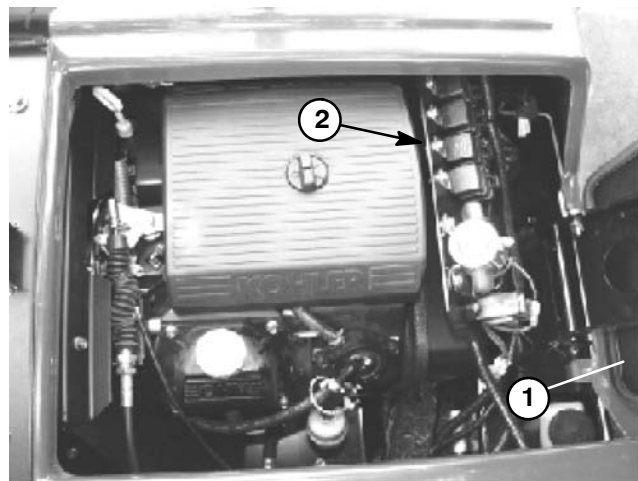

Figure 6
The start and neutral engine speed control relays are used on both the Multi Pro 1200 and Multi Pro 1250. The Multi Pro 1250 uses an additional three (3) relays for the spray valve system. All relays are located under the operator seat (Fig. 6).